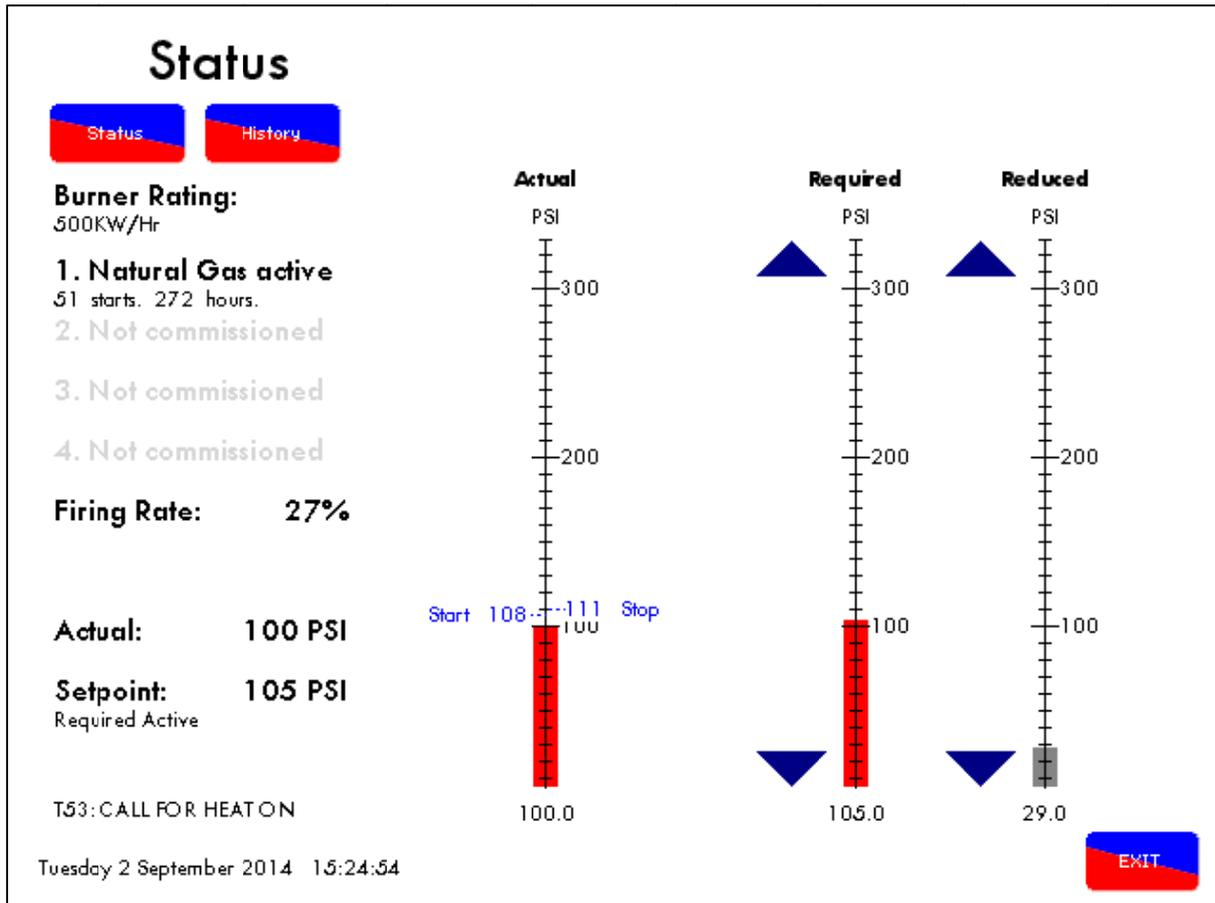

Figure 3.1.9.i Boiler Status Screen
- Required setpoint. Note: If the required value has been locked the  arrows shown in Figure 3.1.9.i will not appear.